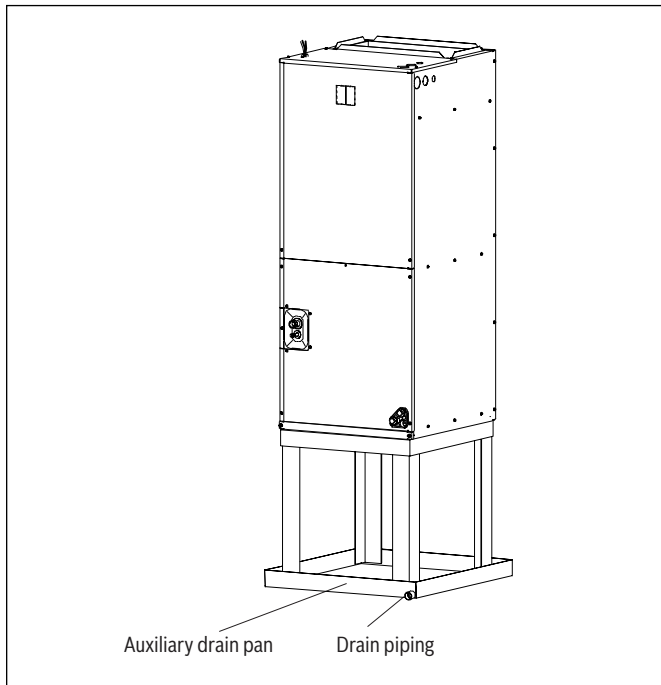

Figure 3 Installed vertical upflow
Condensation may come from the surface of the insulation. Be sure to use insulation that is designed for use with HVAC Systems. Condensation may be produced on surface during cooling operation. It is also recommended to use auxiliary drain pan and secure the unit firmly to prevent it from falling. See Figures 3, 4, 5, & 6.
- Vertical Upflow configuration is the factory default on all models (see Figure 3).